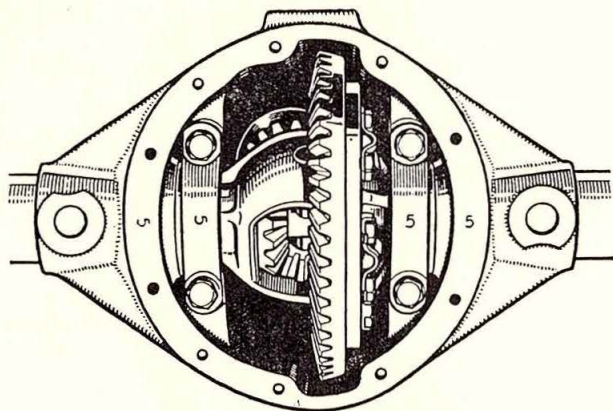

Fig. 18. Differential bearings cap markings.
- (8) Lower the differential assembly into position, lightly tapping the bearings home with a hide hammer, whilst ensuring that the gear teeth are led into mesh with those of the pinion. Careless handling at this stage may result in bruising the gear teeth, and removal of the consequent damage can only be partially successful and result in inferior performance.
- (8a) Install the differential bearing caps, taking care to ensure that the position of the numerals marked on the gear carrier housing face and the caps correspond, as indicated in Fig. 18. Finally tighten the bolts securing the bearing caps.
- (9) When refitting the bearing caps, be sure that the position of the numerals marked on the gear carrier housing face and the caps correspond as indicated in Fig. 18. Tighten the caps lightly, remove the stretching fixture, then finally tighten the bolts securing the bearing caps. Then continue with operation (10).